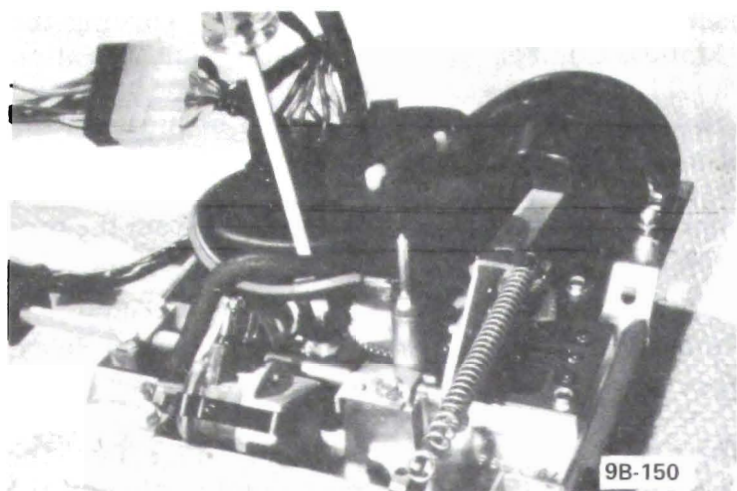

Figure 9B-204 Feedback Potentiometer Adjustment
8. Using a blade-type screwdriver, slip the shaft of the feedback potentiometer fully counterclockwise to its stop (see Figure 9B-204 for location of the feedback potentiometer in the programmer). The vacuum motor mechanism will be "in" the vacuum motor indicating full heat operation.
Refer to Figure 9B-283 for identification of all programmer components. Before attempting to repair or adjust a programmer, locate the "output shaft", the "feedback potentiometer", the "vacuum motor", the "blower switch", the "vacuum checking relay", the "transducer", and the "rotary vacuum valve".
b. Using a screwdriver, slip the shaft of the feedback potentiometer, turning the shaft fully counterclockwise (gear does not move). See Figure 9B-204. The vacuum motor should now be in the "Full Heat" position. (The vacuum motor mechanism will move into the vacuum motor.)